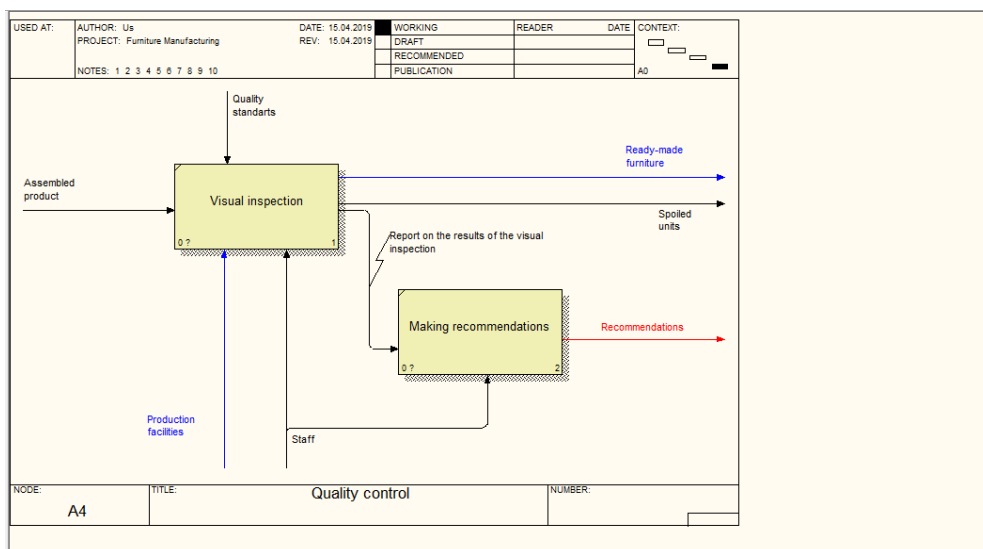

Fig. 4.12. The Quality control decomposition diagram picture
5. Check your results (fig. 4.12).